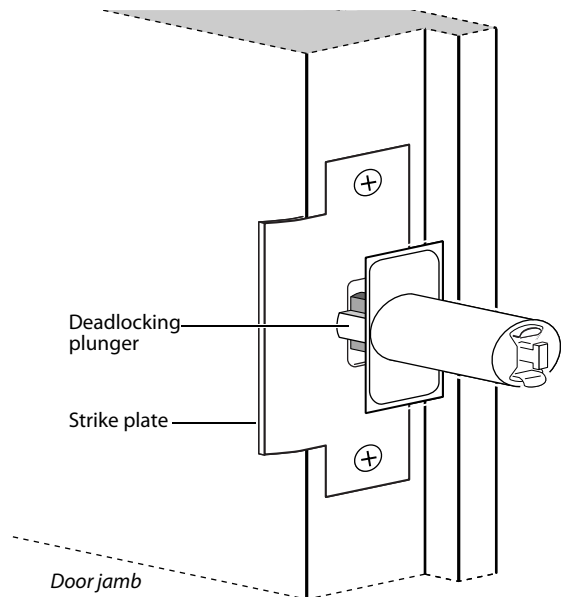

Figure 6 Aligning the deadlocking plunger with the strike plate
**Caution:** The deadlocking plunger of the latchbolt must make contact with the strike plate, as shown in Figure 6. The plunger deadlocks the latchbolt and helps prevent someone from forcing the latch open when the door is closed.